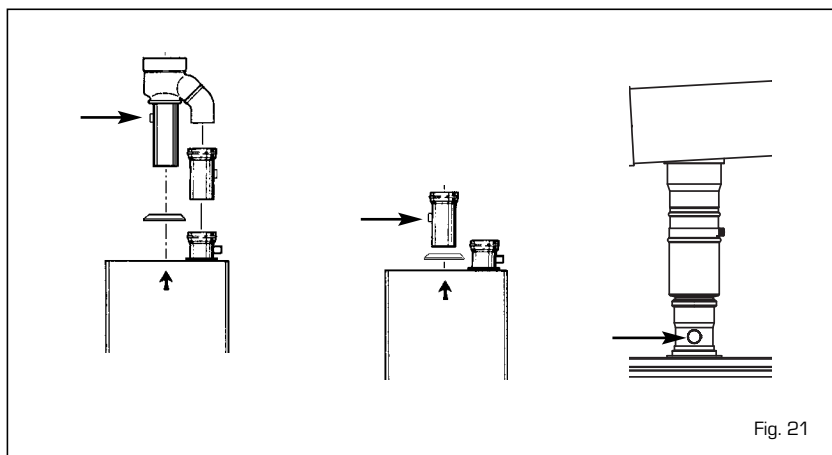

Fig. 21
4.5.1 General (fig. 21)
Please note: the combustion for this appliance has been checked, adjusted and preset at the factory for operation on the gas type defined on the appliance data plate. However, it is advisable to check for correct combustion as described in fig 21, having first checked the following.